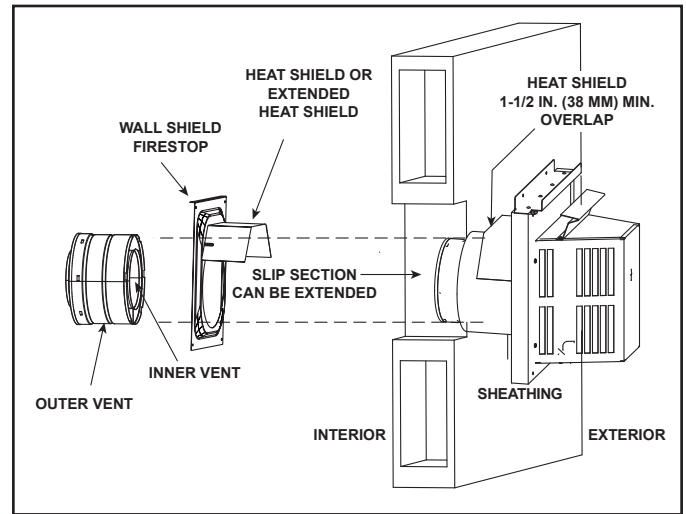

Figure 7.14 Venting Through the Wall
- **DO NOT** remove the heat shields attached to the wall shield firestop and the horizontal termination cap (shown in Figure 7.14).
There are two sections of the heat shield. One section is factory-attached to the wall shield firestop. The other section is factory-attached to the cap. See Figure 7.14.